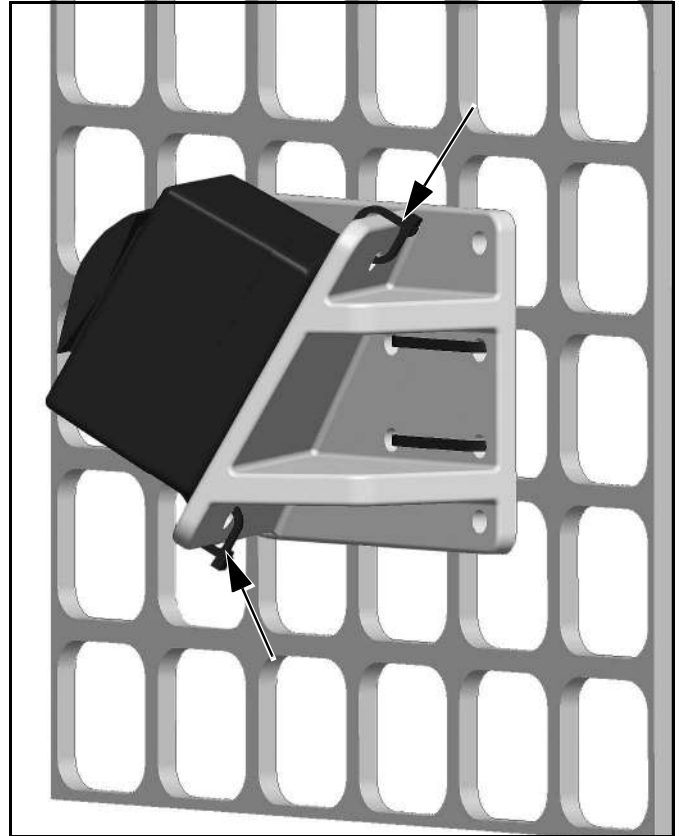

Figure 17
3. Secure Plow Control Box with two tie straps. (See Figure 17)